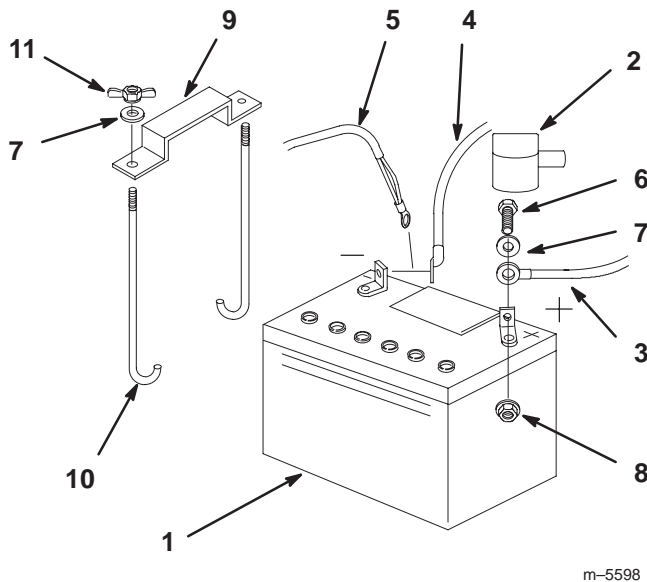

Figure 60
1. Position battery in tray with terminal posts toward the engine (Fig. 60).
4. Secure cables with 2 bolts (1/4 x 3/4 inch), 2 washers (1/4 inch), and 2 locknuts (1/4 inch) (Fig. 60).
6. Secure battery with J-bolts, hold down clamp and 2 washers (1/4 inch), and 2 wing nuts (1/4 inch) (Fig. 60).
3. First disconnect the negative battery cable and ground wire from the negative (–) battery terminal (Fig. 60).
4. Slide the red terminal boot off the positive (red) battery terminal. Then remove positive (red) battery cable (Fig. 60).
5. Remove both wing nuts (1/4 inch) securing the battery clamp (Fig. 60).